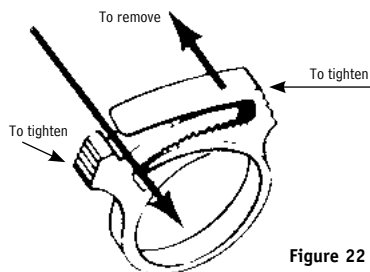

Figure 22
1. Remove nylon clamp from plastic anchor plate on hood (see Figure 22).